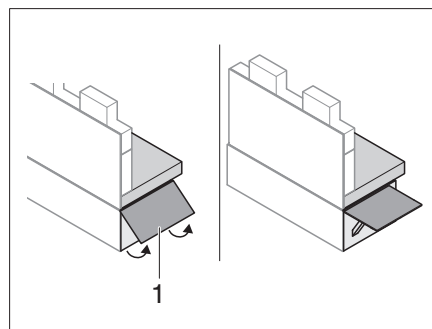

Fig. 142 Folding out bench seat extension
- Fold up bench seat extension (Fig. 142,1).
- Slide in the release button and fold in the bench seat extension (Fig. 142,1).